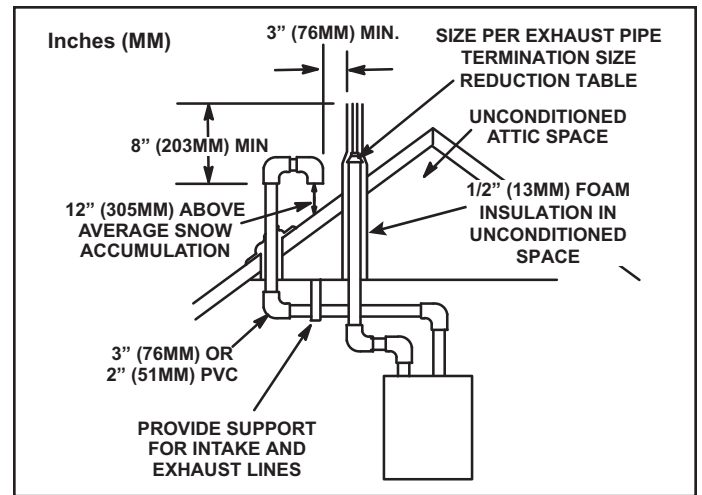
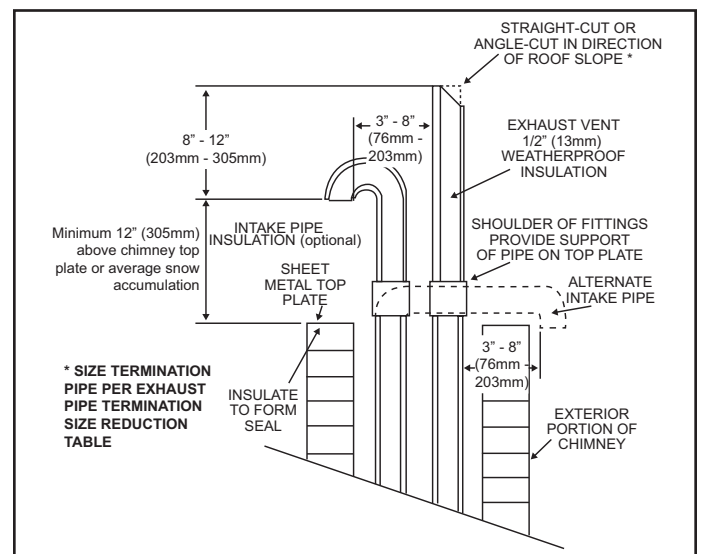

Figure 36. Direct Vent Roof Termination Kit
Figure 44. Direct Vent Application Using Existing Chimney
Intake and exhaust pipes may be routed either horizontally through and outside wall or vertically through the roof. In attic or closet installations, vertical termination through the roof is preferred. Figure 36 through Figure 44 show typical terminations.
3. On roof terminations, the intake piping should terminate straight down using two 90° elbows (see Figure 36).